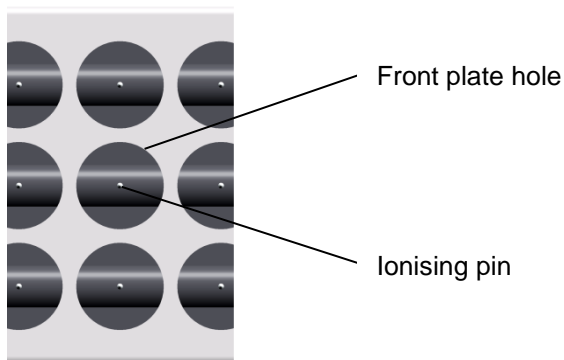

Figure 9: Front plate position
- Fit the front plate on the air duct. The front plate must be positioned so the emitter points are in the middle of the holes. See figure 9.